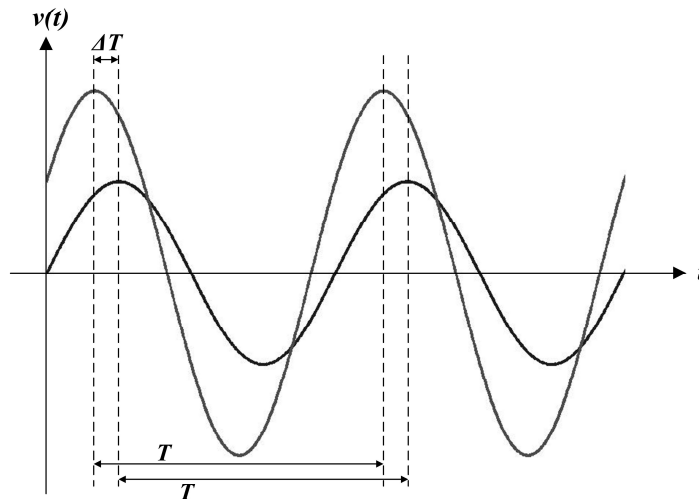

Figure 6. Phase difference between two sinusoidal signals.
- 2.1 Two sinusoids of the same frequency are said to have a phase difference when their peak values occur at different times, as shown in Figure 6.